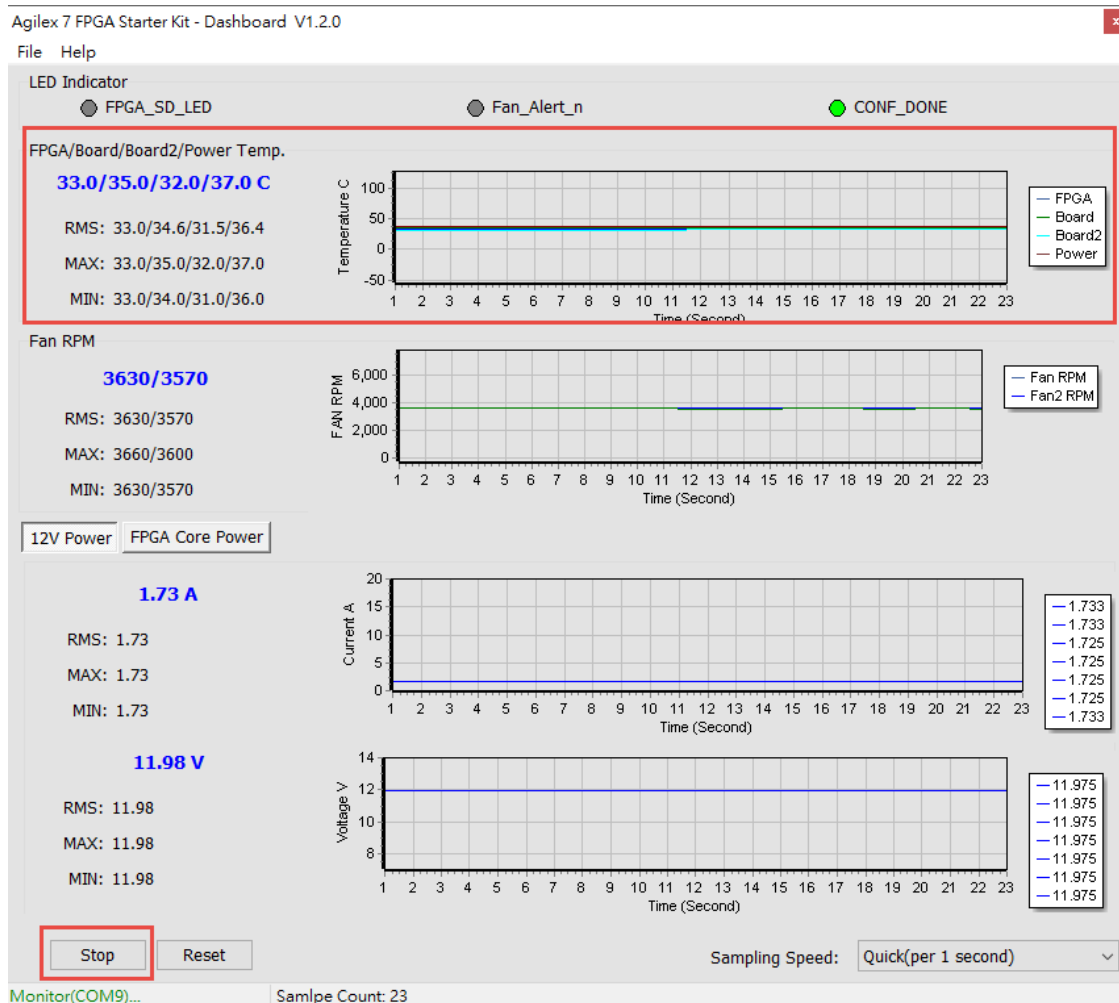
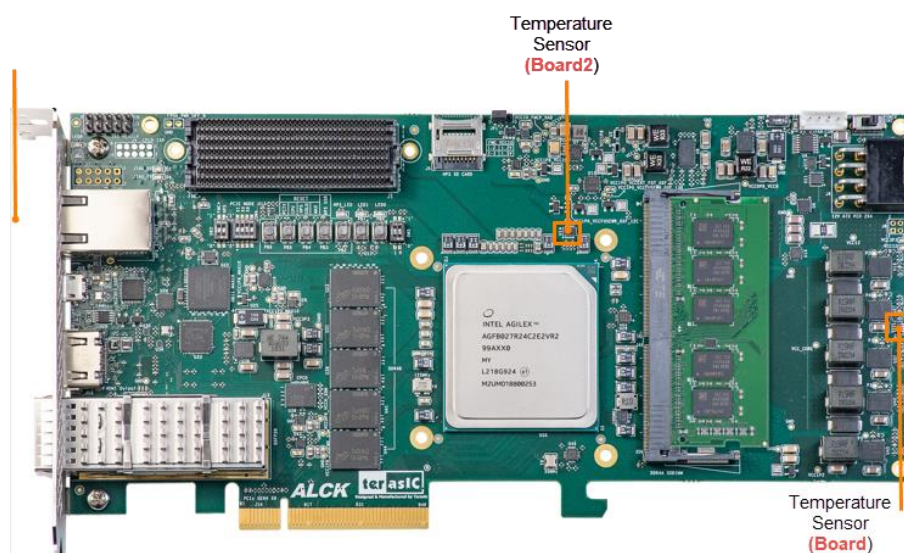

Figure 3-9 Temperature section
Figure 3-10 Location of the board's ambient temperature
- **FPGA/Board/Transceiver Temperature:** The Dashboard GUI will real-time show the Agilex 7 FPGA Starter Kit board's ambient temperature (**Board** and **Board2** data in the GUI) and FPGA and FPGA's transceiver (**F-Tile 12C** and **F-Tile 13A**) temperature. Users can know the board's temperature status in time. The information will be refreshed per 1 second, and displays through diagram and number, as shown in **Figure 3-9**. **Figure 3-10** shows the location of the two temperature sensors of **Board** and **Board2** on the GUI.